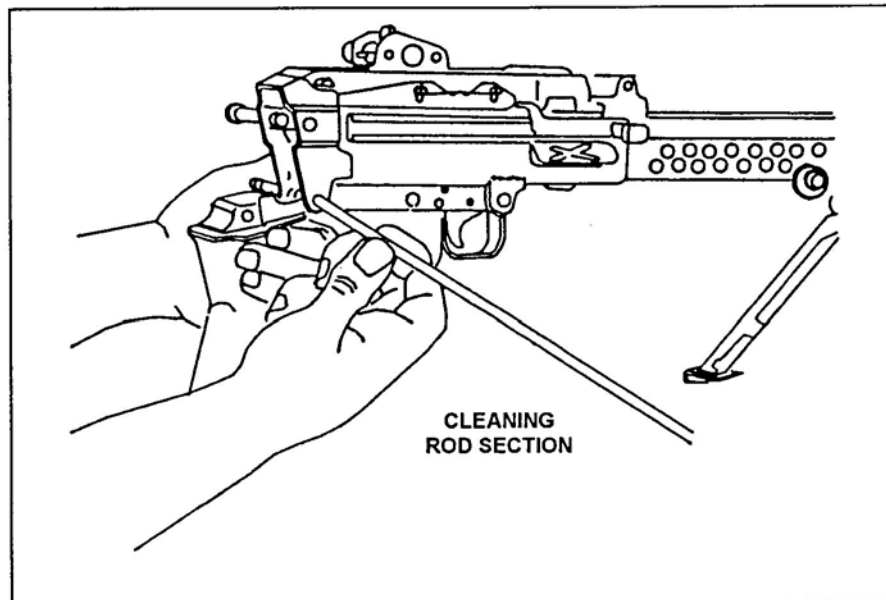

Figure 11. Removal of the buttstock and buffer assembly.
- (1) Using a section of the cleaning rod, push the lowermost retaining pin to the left.
- (2) While supporting the trigger mechanism with one hand, use the other to pull the buttstock and buffer assembly rearward and remove it (Figure 11).